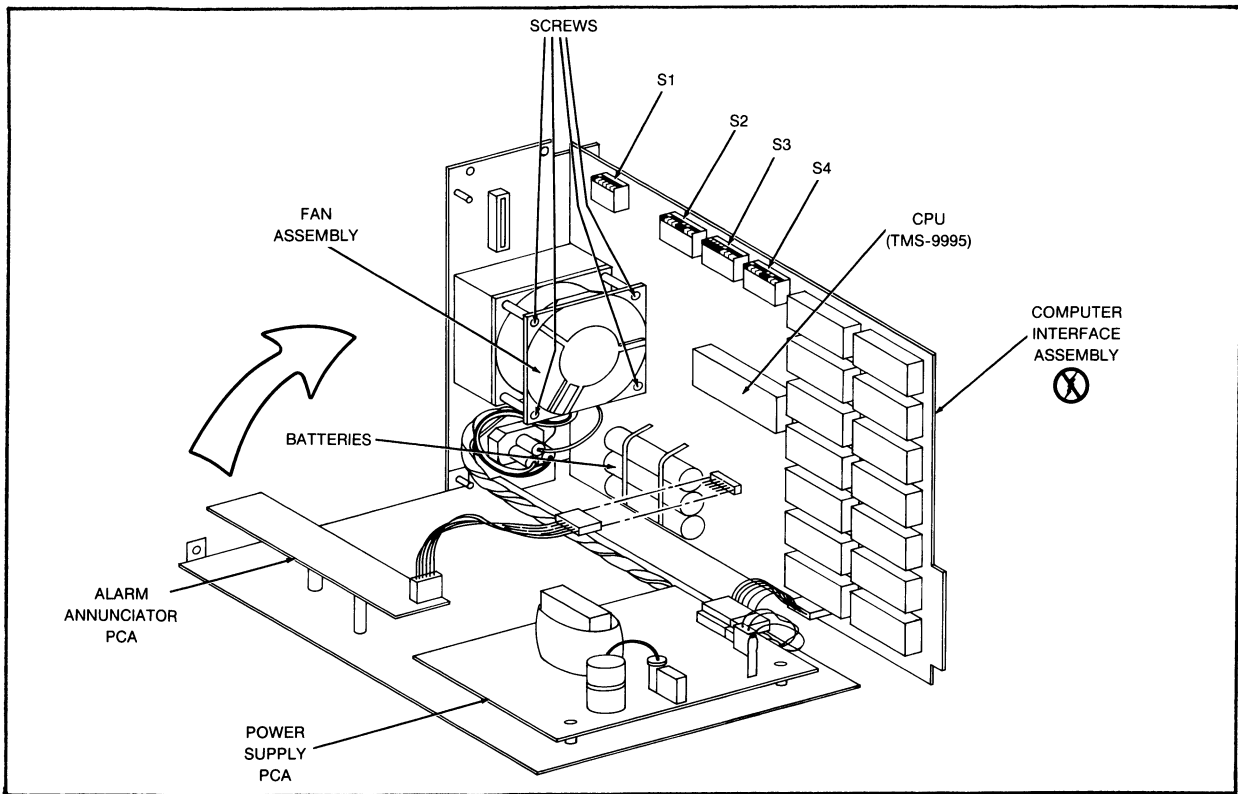

Figure 4-6. Computer Interface Module (Interior)
The Power Supply PCA is mounted on the Computer Interface Module (Figure 4-6). To access the Power Supply PCA, use the following procedure:
The Computer Interface Assembly is mounted on the Computer Interface Module (see Figure 4-6). Use the following procedure to access the Computer Interface Assembly:
3. Place jumper W9, shown in Figure 4-6, in the "batteries disconnected" position.
To remove the fan assembly (shown in Figure 4-6), perform the following procedure:
3. To detach the fan assembly (and the fan filter housing) from the support panel of the Computer Interface Module, remove the four screws (shown in Figure 4-6) that secure the fan assembly and filter housing to the panel.